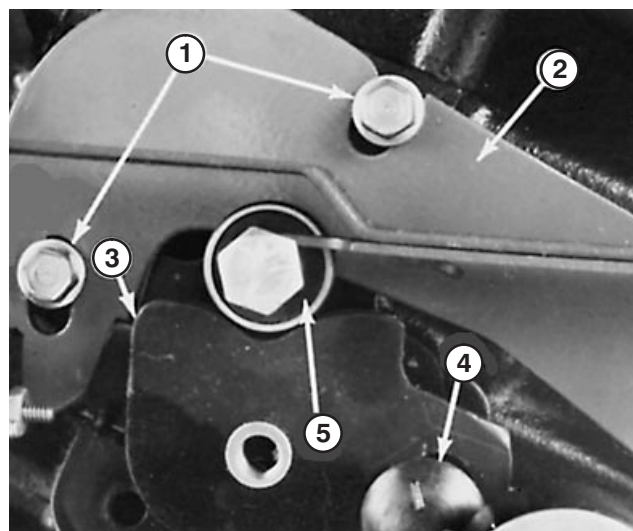

Figure 72
4. With engine OFF, loosen nut on carriage bolt and allow bearing to locate cam (Fig. 72). Carefully tighten nut on carriage bolt.
5. Loosen screws to allow neutral device bracket to move; but not freely (Fig. 72). Adjust neutral device bracket so that $40 \pm$ in.-lb. of torque on control lever just starts to rotate lever. Tighten screws.